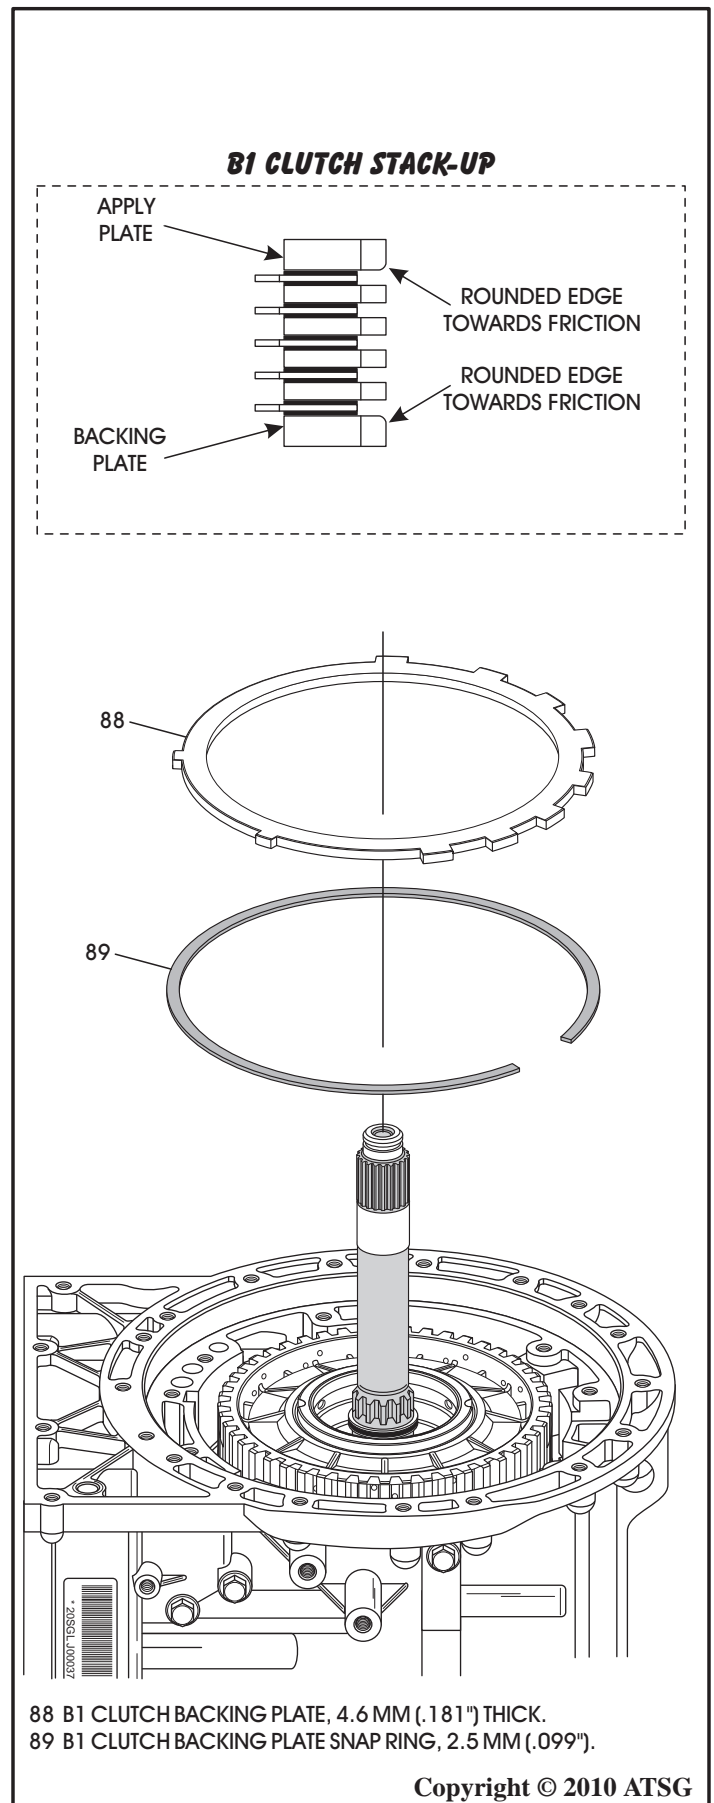

Figure 217
36. Install the B1 clutch backing plate snap ring into the case, as shown in Figure 217, and ensure that it is fully seated in case groove.
37. Install the B1 clutch backing plate, as shown in Figure 217, with the rounded edge facing up toward the friction plate.